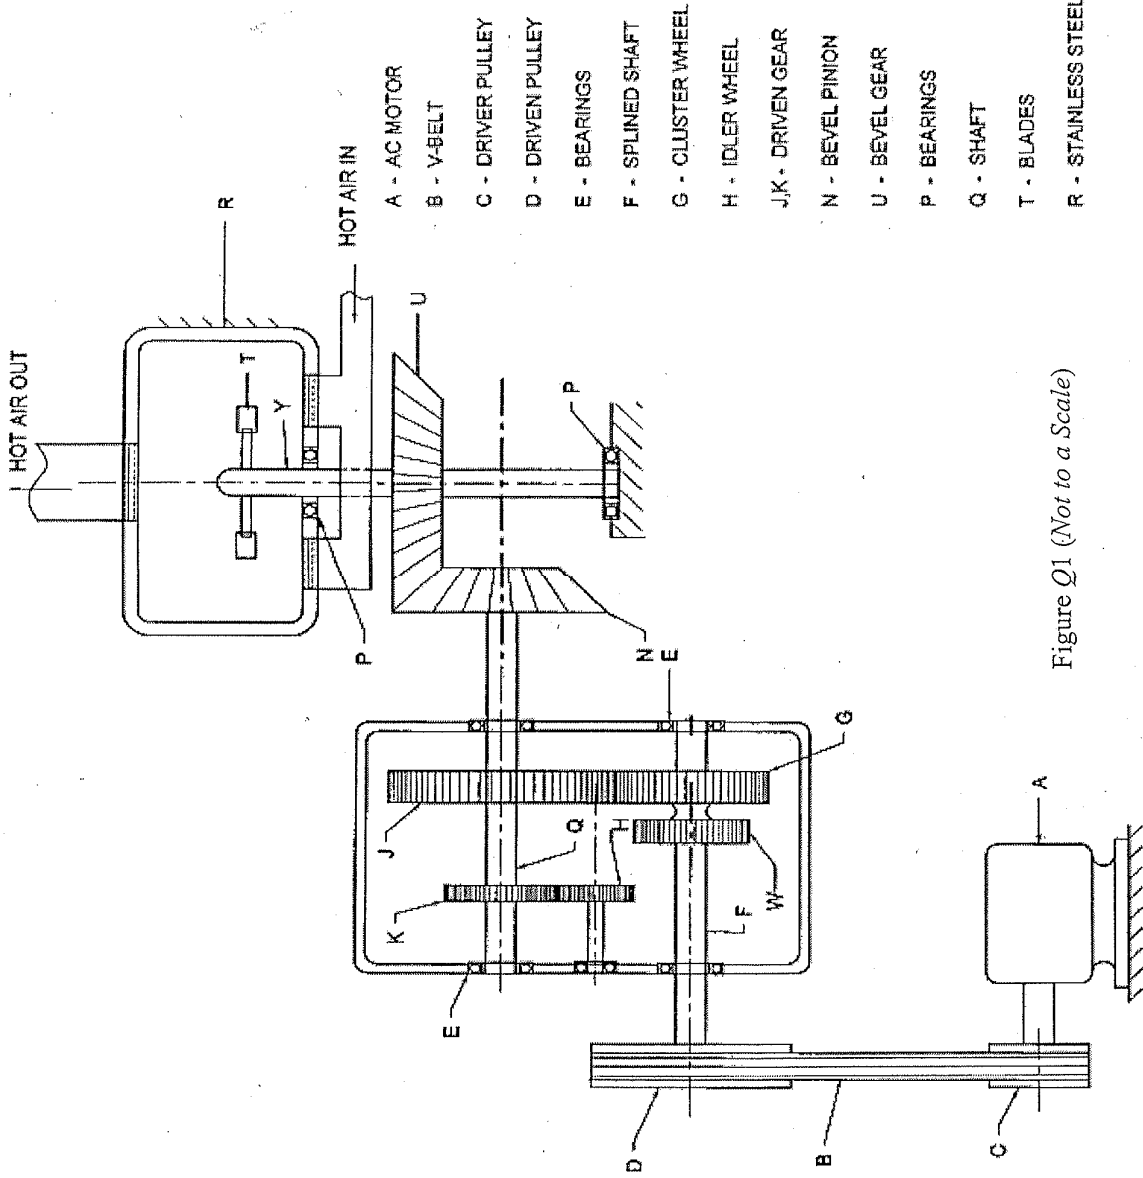
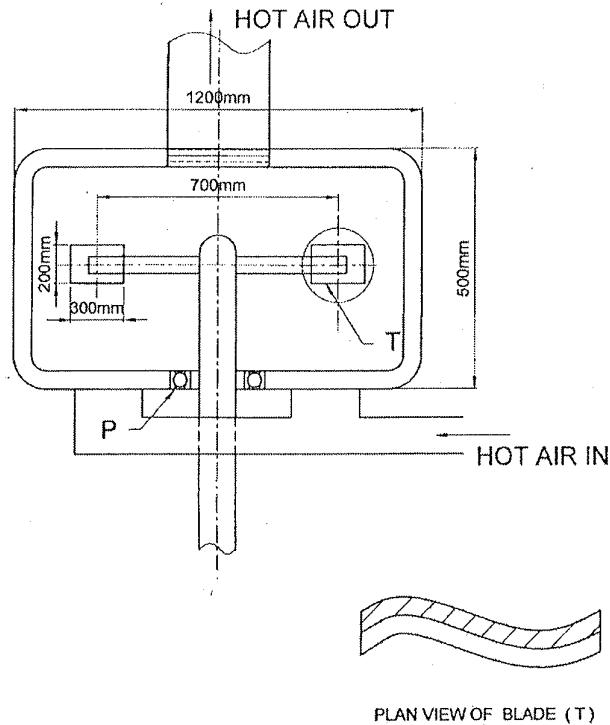

Figure Q1 (Not to a Scale)
Figure Q2
Ceylon Mills produces a variety of food items and consumable products, with one of their main offerings being coffee powder. The process begins by pre-heating coffee beans to a specific temperature, followed by grinding them into a powdered form using a grinder. Ceylon Mills' engineers have designed a mechanical system, as illustrated in Figure Q1, for the pre-heating of coffee beans. In this system, raw coffee beans are introduced into a cylindrical container (**R**), where hot air is supplied from the bottom to heat the beans. After heat is transferred to the beans, air is then evacuated through a duct-fan system located at the top of the container. The rotor, ensuring uniform processing, facilitates continuous agitation of the coffee beans inside the cylindrical container. Loading and unloading mechanisms for coffee beans are not depicted in Figure Q1. Additional details regarding the container and agitator blade arrangement can be found in Figure Q2.
1. The dimensions of the blades, arm of the blades and the container are as given in Figure Q2.